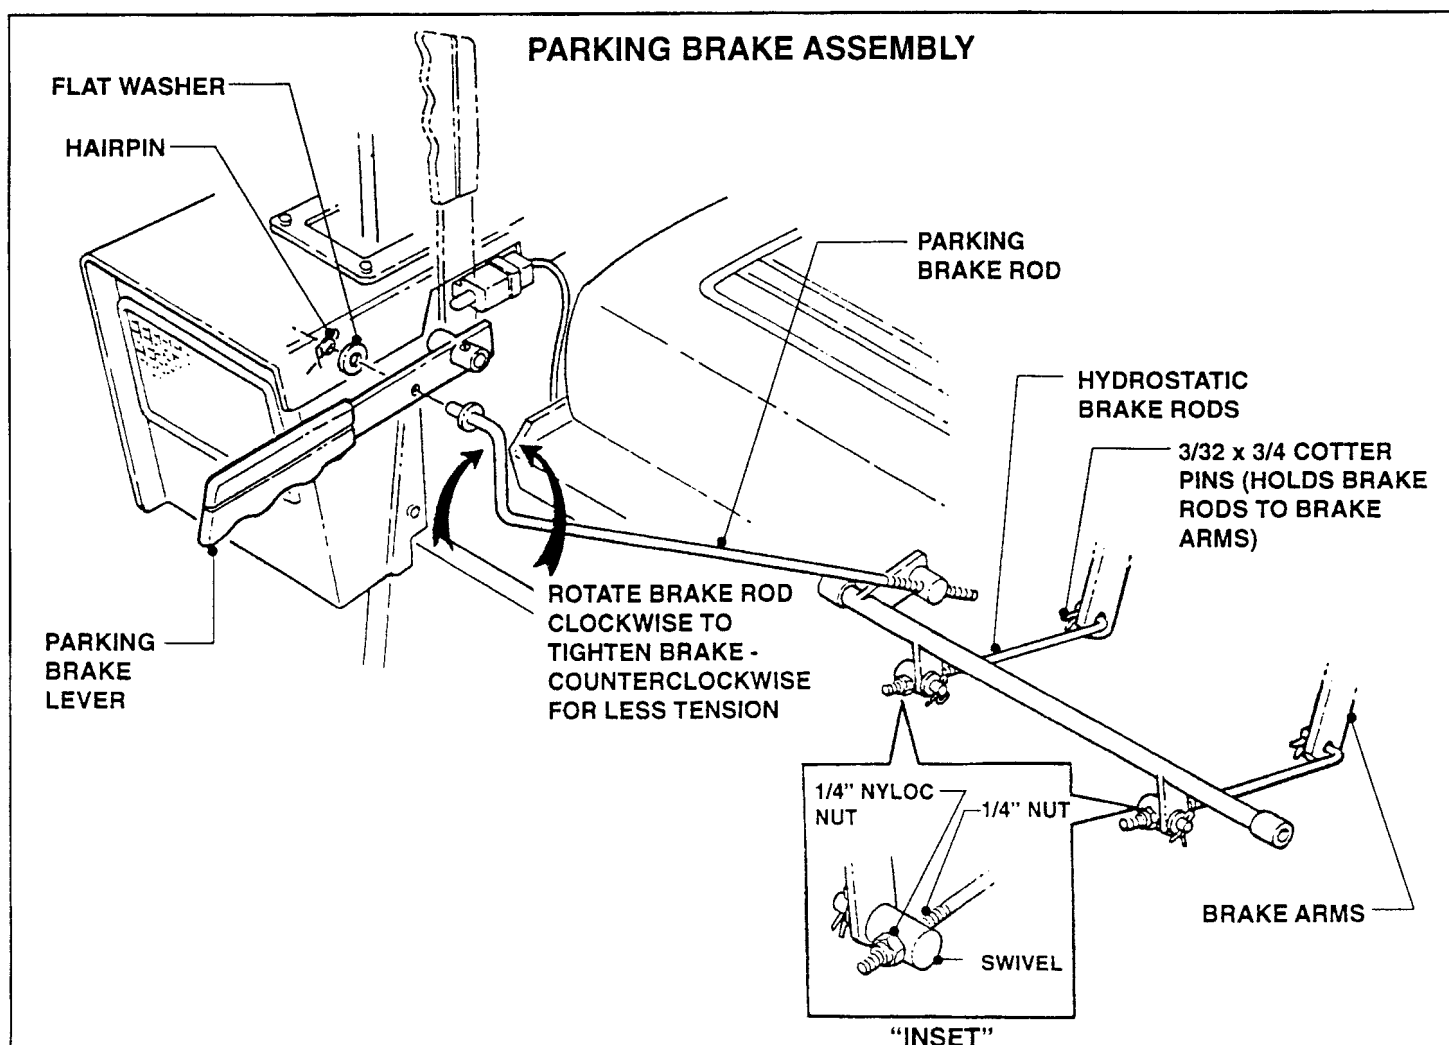

FIGURE 5.6
- Disconnect Parking Brake Rod from Park Brake Lever. See Figure 5.6.
- Rotate Rod clockwise one (1) turn to tighten Brake or counterclockwise to loosen Brake tension.
- Rotate nut 1/2 turn clockwise to tighten Brake. (See "Inset", Figure 5.6).
- E. Disconnect the Hydrostatic Brake Rod by removing the 3/32 x 3/4" Cotter Pin from the 1/4" Swivel. Refer to Figure 5.6, Pg. 5.4.
- G. Disconnect the Hydrostatic Brake Rod by removing the 3/32 x 3/4 Cotter Pin from the Brake Arm. Refer to Figure 5.6.